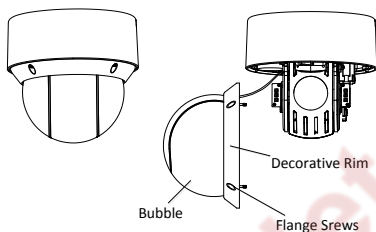

Figure 2-10 Remove the Bubble and the Decorative Rim
2. Loosen four flange screws with a screwdriver. Remove the bubble and the decorative rim as shown in Figure 2-10.